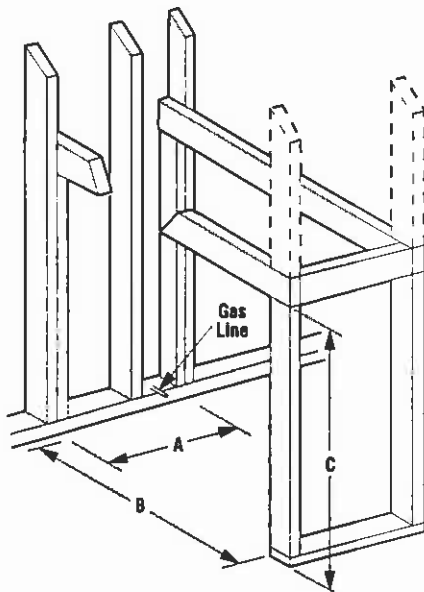

Figure 4
**Step 1.** Frame the CFST appliance as illustrated in Figures 4 and 5. Frame the CFPF appliance as illustrated in Figures 7 and 8.